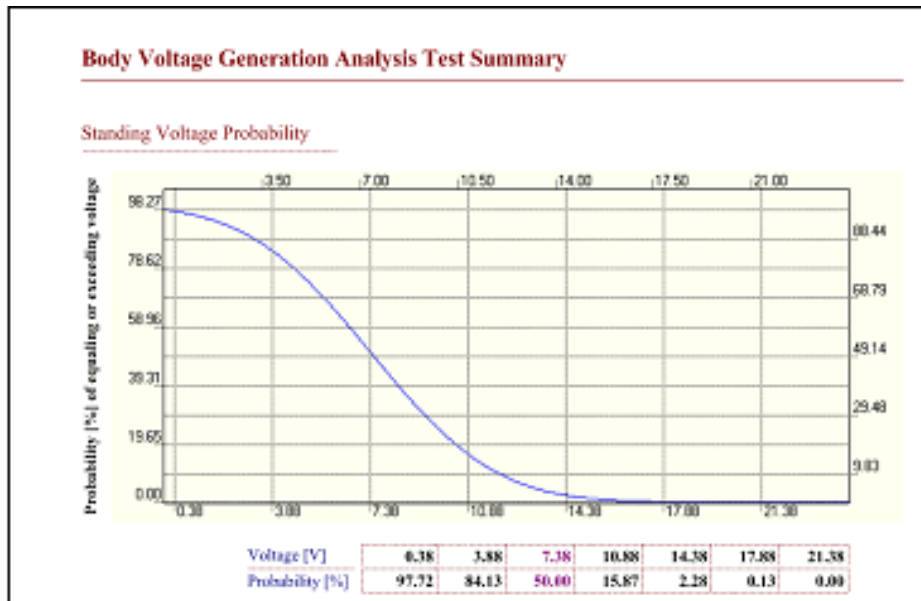

Figure 30: Full Size Chart with Session Wizard Information
- c. Selecting the Body **Voltage Analysis (Abs)** report will generate graphs where their slopes will be calculated using absolute values of the data. (Figure 30)